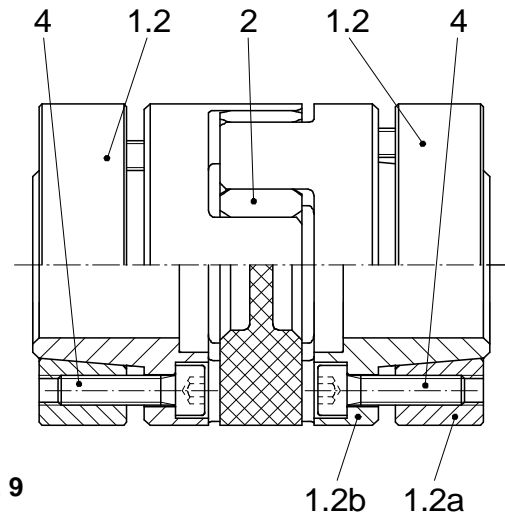

Fig. 9
Type 940.\_11.\_ (Fig. 9)
- Loosen all clamping screws (4) by several tightening turns.
- Tighten the clamping screws (4) stepwise evenly. In this way, the clamping ring (1.2b) is forced away from the shrink disk hub (1.2a) (Fig. 9).